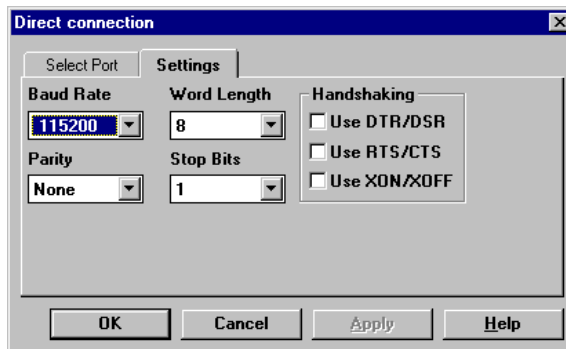

Figure 2.3: Direct Connection Dialog Box - Settings Tab
3. Click the **Settings** tab to switch to the **Settings** tab (Figure 2.3) and set the communication parameter options listed in Table 2.2.